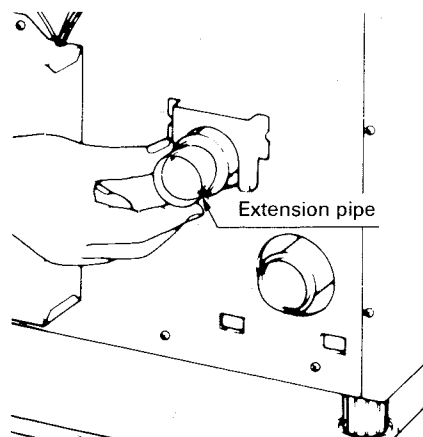

Fig. 15
9. In case the circuit board cover gets in the way of the connection of the telescoping flue pipe, use the extension pipe for the exhaust outlet mouth of the heater (See Fig. 15).